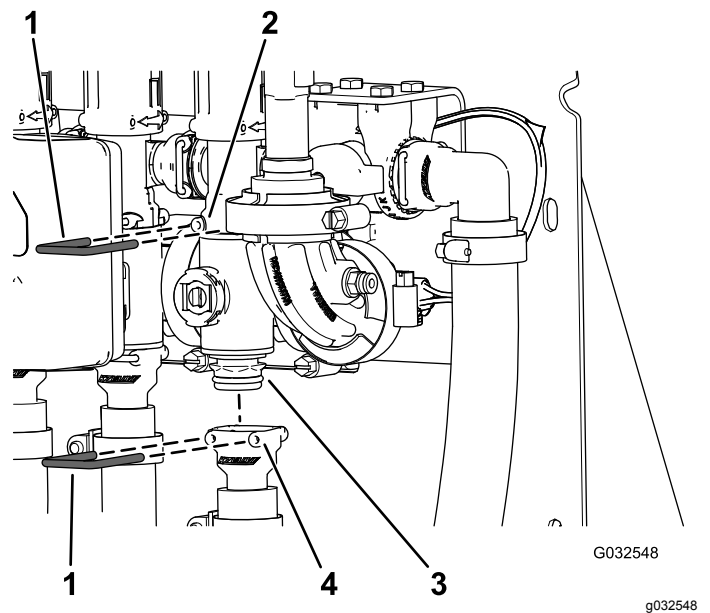

Figure 103
2. Remove the retainer that secures the section-valve manifold to the bypass fitting (Figure 103).